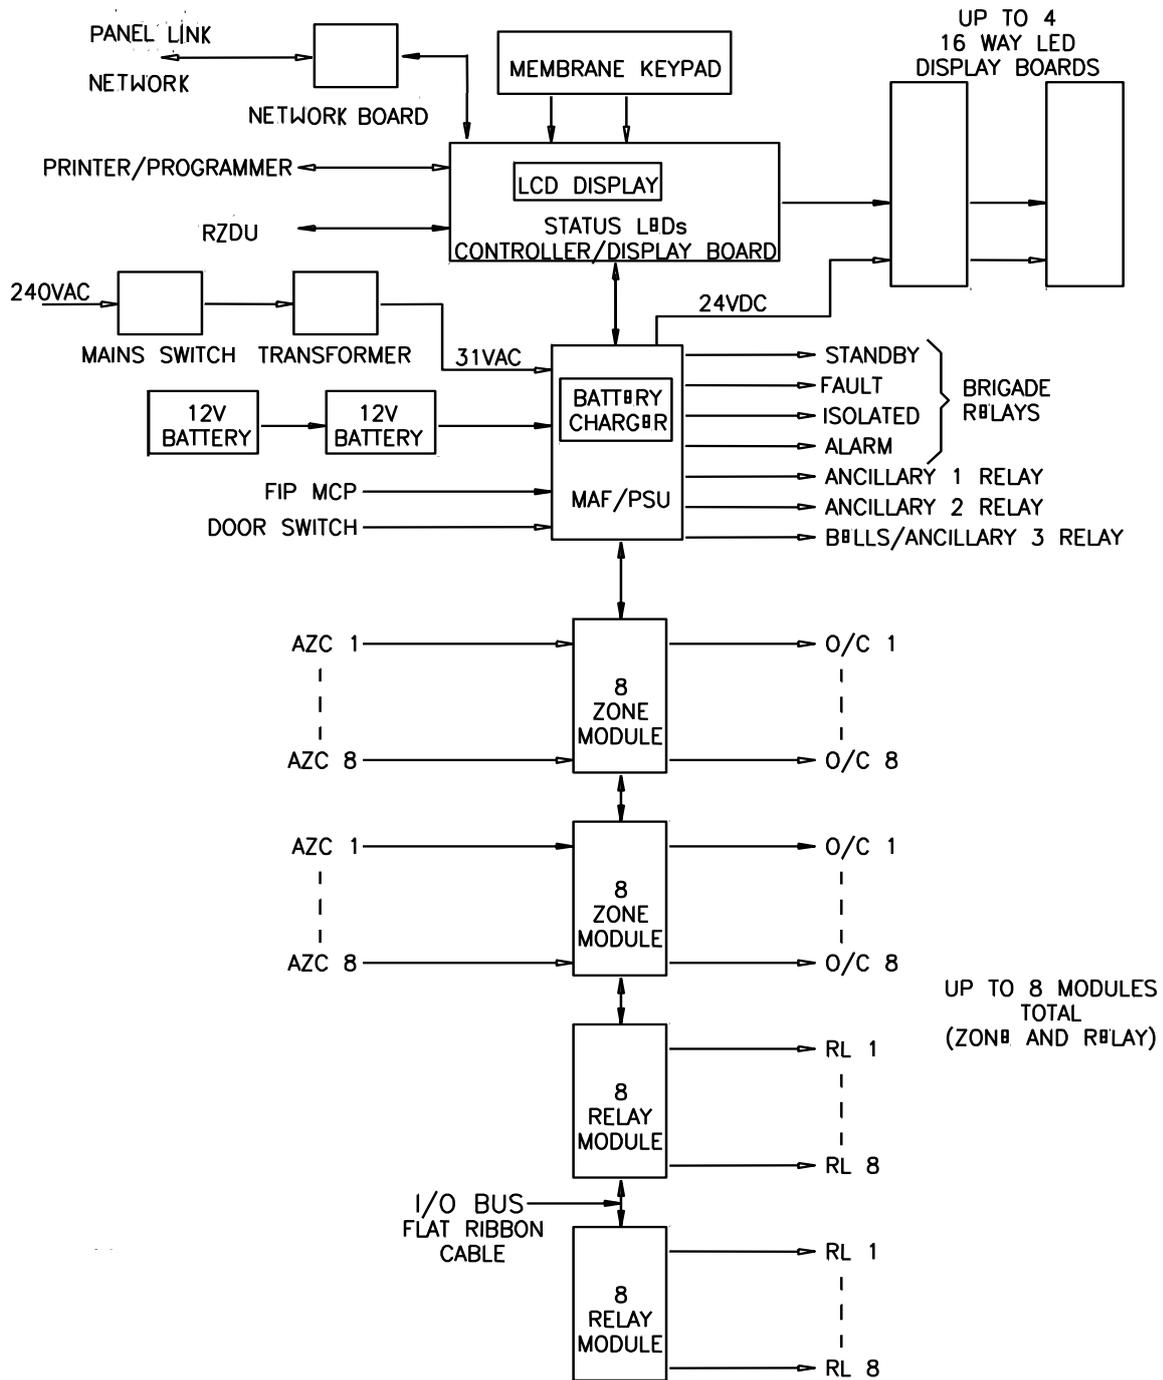

FIG 2.3.1
**Additional 8 Zone Modules and/or 8 Relay Modules** can be fitted to the I/O bus, with a maximum of eight 8 way modules. This is shown in the block diagram of Fig 2.3.1.